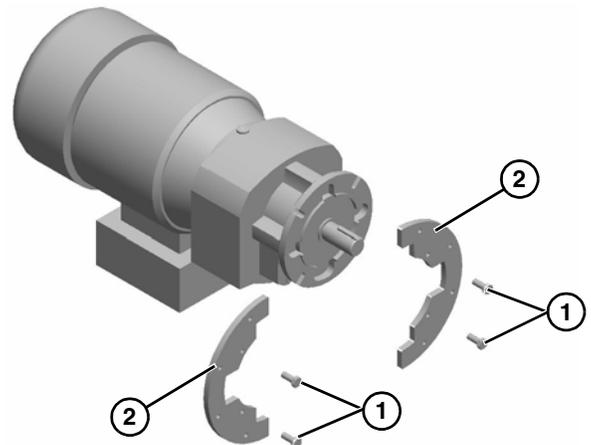

Figure 21
7. Remove four (4) bolts (**Figure 21, item 1**). Detach mounting plates (**Figure 21, item 2**) from motor. Install new motor.